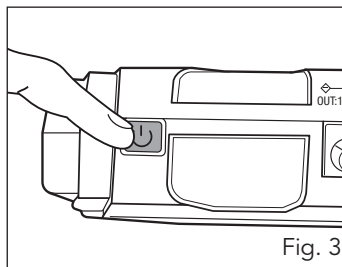

Fig. 3
1. Press the ON/Off Button (5) (fig. 3) for 3 seconds - the LED Torch (1) will illuminate.